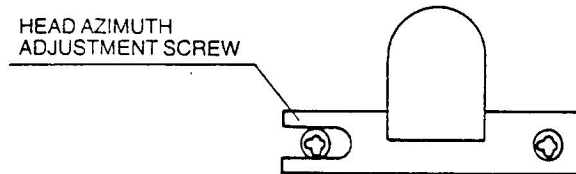

Figure 7
- Adjust the azimuth adjustment screw for maximum output. (See Fig. 7)